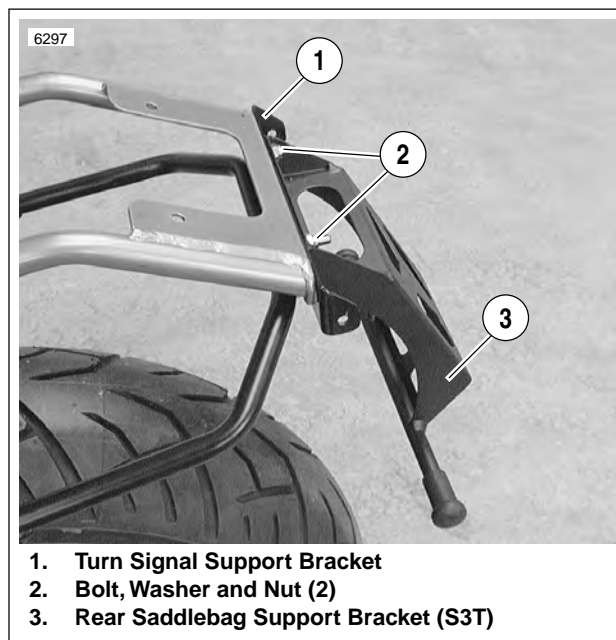

Figure 2-107. Saddlebag Brackets
6. See Figure 2-107. On S3T models, you may remove bolts, washers and nuts (2) to detach rear saddlebag support bracket (3) from turn signal support bracket (1).
1. See Figure 2-107. Install turn signal support bracket (1) and rear saddlebag support bracket (3) (S3 models equipped with touring package) using bolts, washers and nuts (2).